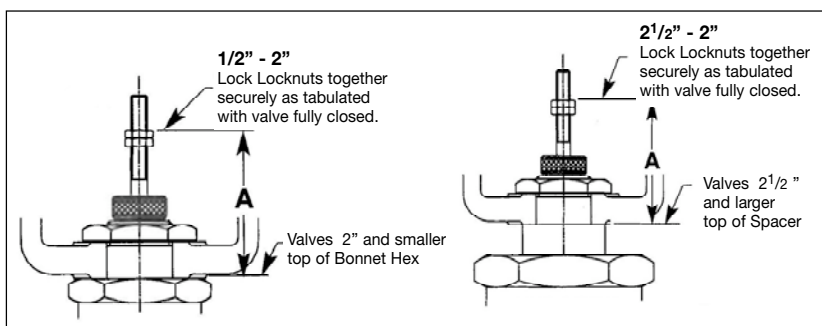

Figure 6
- C) Set the topmost locknut to the dimension shown and tabulated in Figure 6.
When setting the stem locknut dimensions the In-To-Close valves used on 91600 Actuators are to be set 1/4” shorter than shown in Figure 6. Out-to-Close and three-way valves are set the same as tabulated.